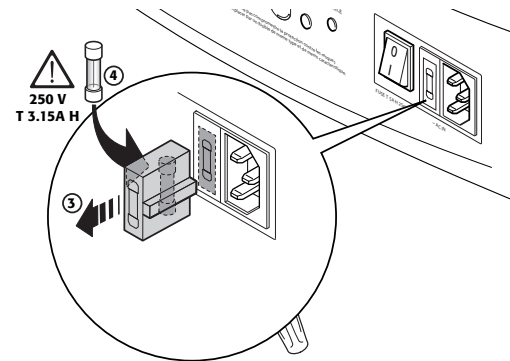

Fig. 3
The fuse compartment is near to the mains power connector (Fig. 3). Remove fuse carrier (2) with the aid of a flat blade screwdriver, then change fuse (3). Insert a new spare fuse (4). Use only T 5A H fuses.